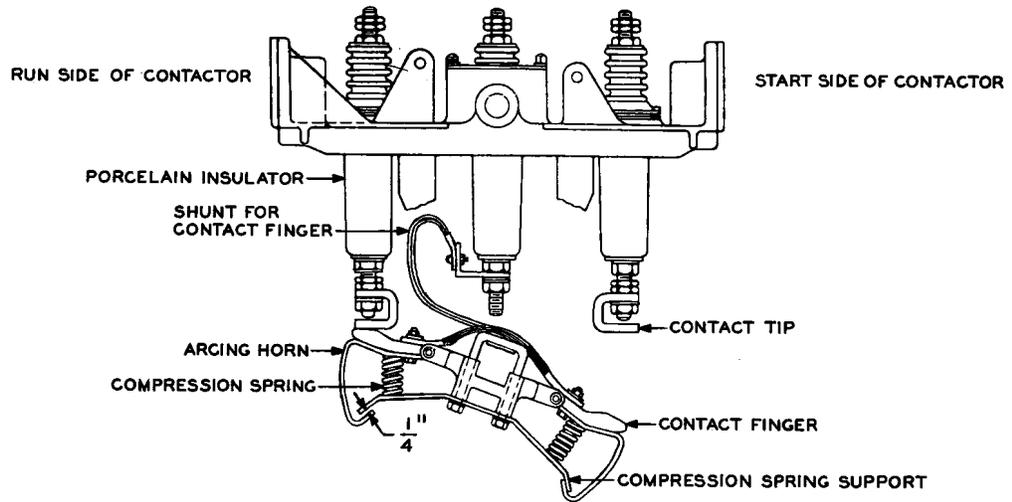

Fig. 11 – Contactor Mechanism on Form K22 Starter (in RUN Position)
- (a) With the starter handle in the RUN position and held there manually, there shall be a clearance of approximately 1/32 inch between the notch in the latch lever and the associated pin, and approximately 1/4 inch between the compression spring support and the arcing horn on the RUN side. The latter is shown in Fig. 11.
(1) Hold the handle as far in the RUN position as it will go and adjust the setscrew on the RUN side to provide the 1/32-inch clearance between the notch in the latch and the associated pin. This setscrew is underneath the casting that supports the contactor mechanism. Then adjust the pressure of the RUN contacts by setting the stationary RUN contacts to provide the 1/4-inch clearance between the compression spring support and arcing horn shown in Fig. 11.